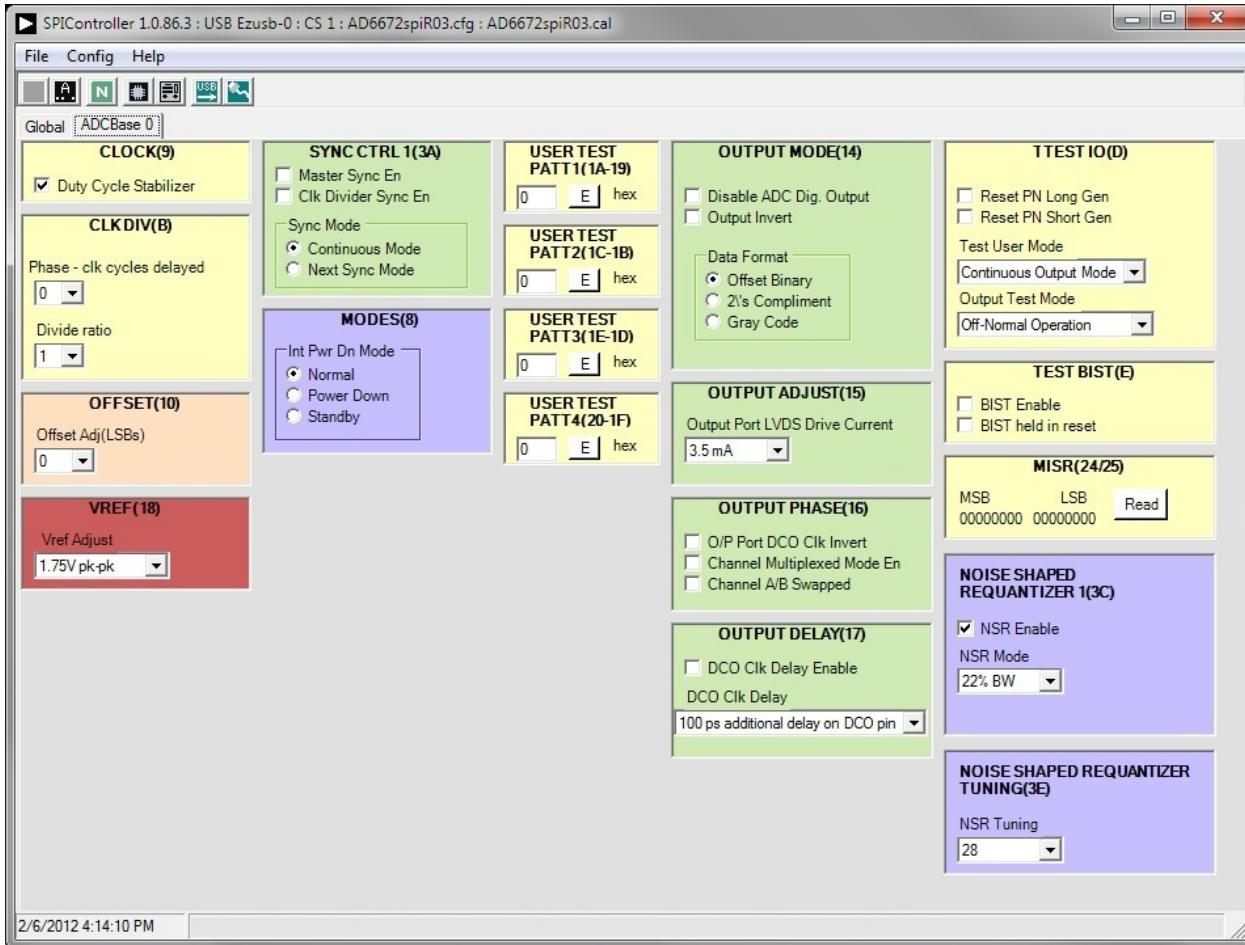

Figure 12. SPI Controller, Example ADCBase 0 Tab—NSR Settings for the AD6672
- If using the noise shaping requantizer (NSR) feature of the **AD6672**, the settings in the **ADCBase 0** tab must be changed (see Figure 12). The **NSR Enable** checkbox must be selected under the **NOISE SHAPED REQUANTIZER 1(3C)** section. This enables the circuitry in the **AD6672**. To select the bandwidth mode, use the **NSR Mode** drop-down box in the **NOISE SHAPED REQUANTIZER 1(3C)** section. Upon selecting the bandwidth mode, select the desired tuning word in the **NSR Tuning** drop-down menu under the **NOISE SHAPED REQUANTIZER TUNING(3E)** section.